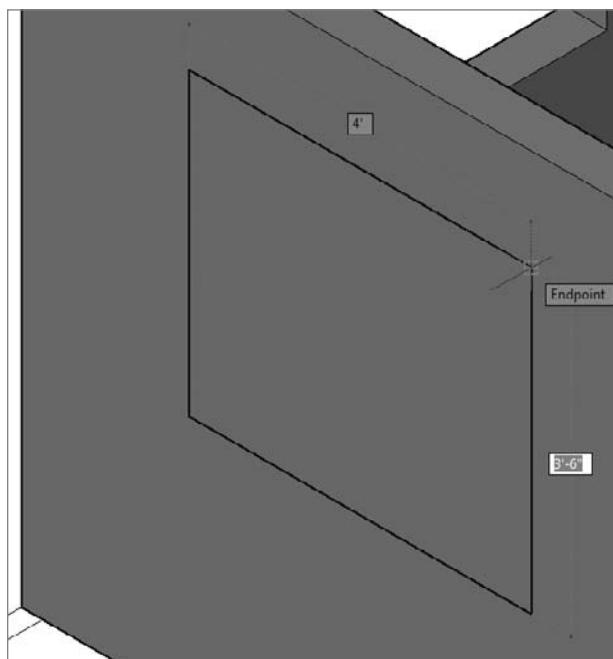

FIGURE 16.30 With Dynamic UCS turned on, the box's base is oriented parallel to the wall (top); the box's base is completed (bottom).
4. With the Endpoint osnap active, click the lower-left outside corner of the kitchen window, and then move the cursor away from that corner. The box starts to form with its orientation parallel to the outside wall, and the UCS icon temporarily changes its orientation (see the top of Figure 16.30). Click the opposite outside corner of the window for the base of the new box (see the bottom of Figure 16.30).